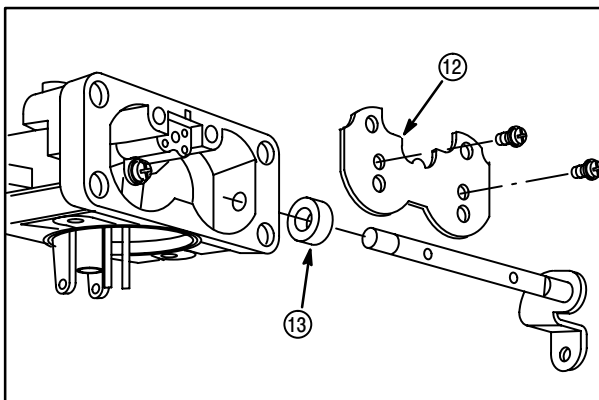

Fig. 120
8. Remove screws and choke plate (12), **Fig. 120**.
9. Remove choke shaft. Discard seal (13).